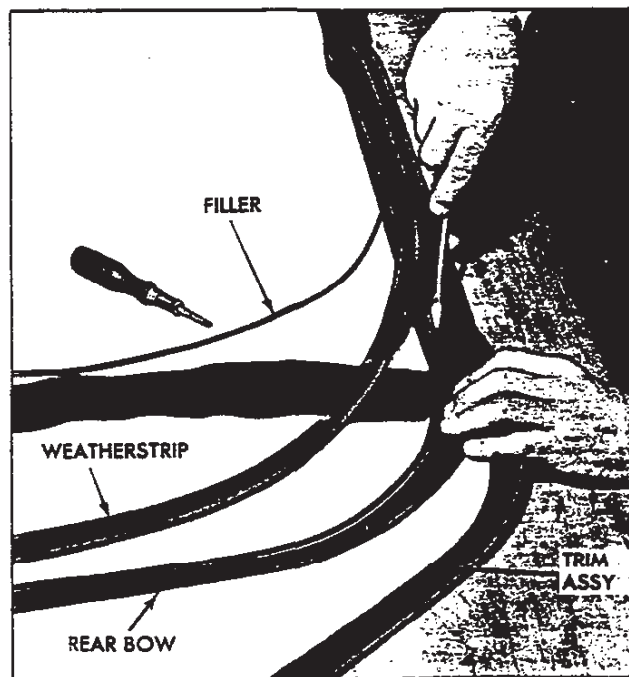

Fig. 72—Installing Trim and Weatherstrip to Rear Bow
10. Remove plastic filler from rear bow weatherstrip and pull weatherstrip and trim from rear bow. Section A-A shows installed position of these components. Refer also to Figure 72.
2. Assemble top trim and weatherstrip to rear bow, referring to Section A-A and Figure 72. Note that filler strip locks this assembly together and goes in last. Align center marks.